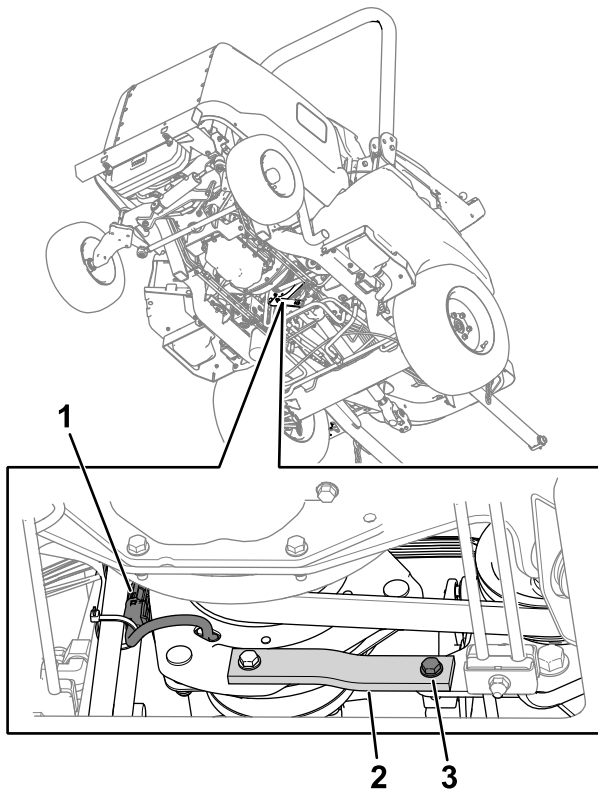

Figure 75
2. Unplug the clutch-wire-harness connector from the machine wire harness (Figure 75).
3. Remove the bolt, washer, and nut from the metal and rubber straps (Figure 75) on the frame.